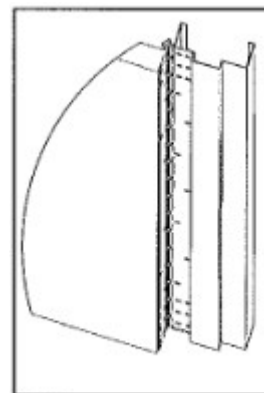

Fig. 3
1. Position the door (with hinge attached) at 90 degrees to the frame. Attach the hinge to the frame (see fig.3). For wood or fiberglass frames, use the 1/4" x 1 1/2" optional wood screws. For metal frames, use the 1/4" - 20 x 1" self-drilling screws provided (recommended driver speed 1,900-2,500 rpm).